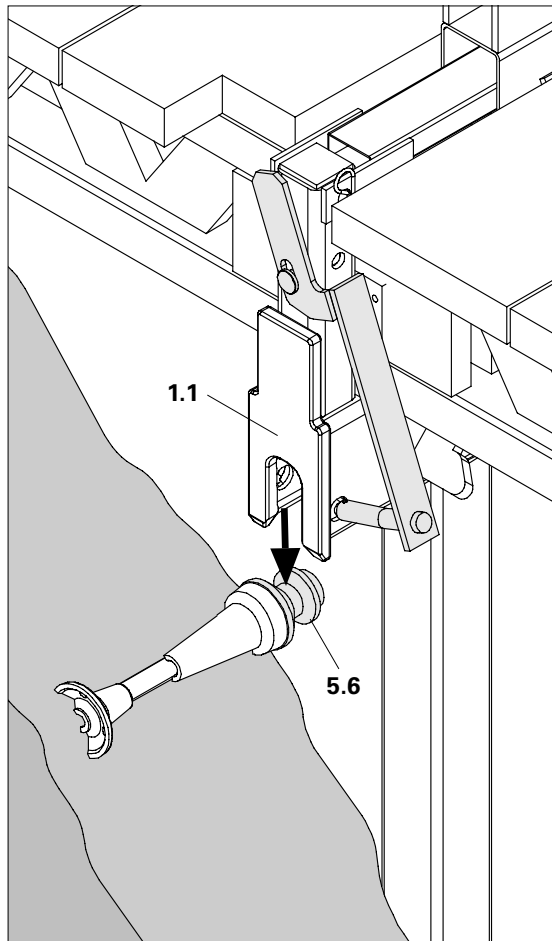

Fig. B1.22
8. Raise platform and pivot over the scaffold mounting rings. (Fig. B1.22)